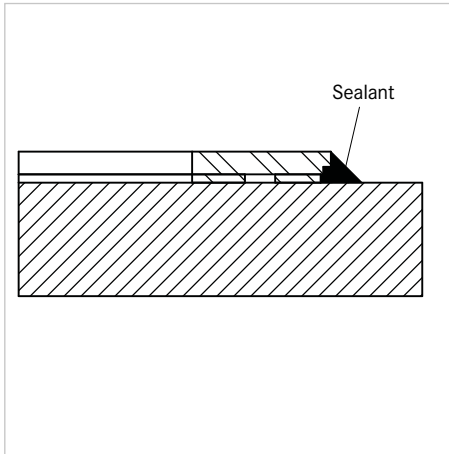

Figure 5: Sealing joint
-  Pull a 45° joint between the mounting frame and the safety window (Figure 5) to the level of the base unit support surface.